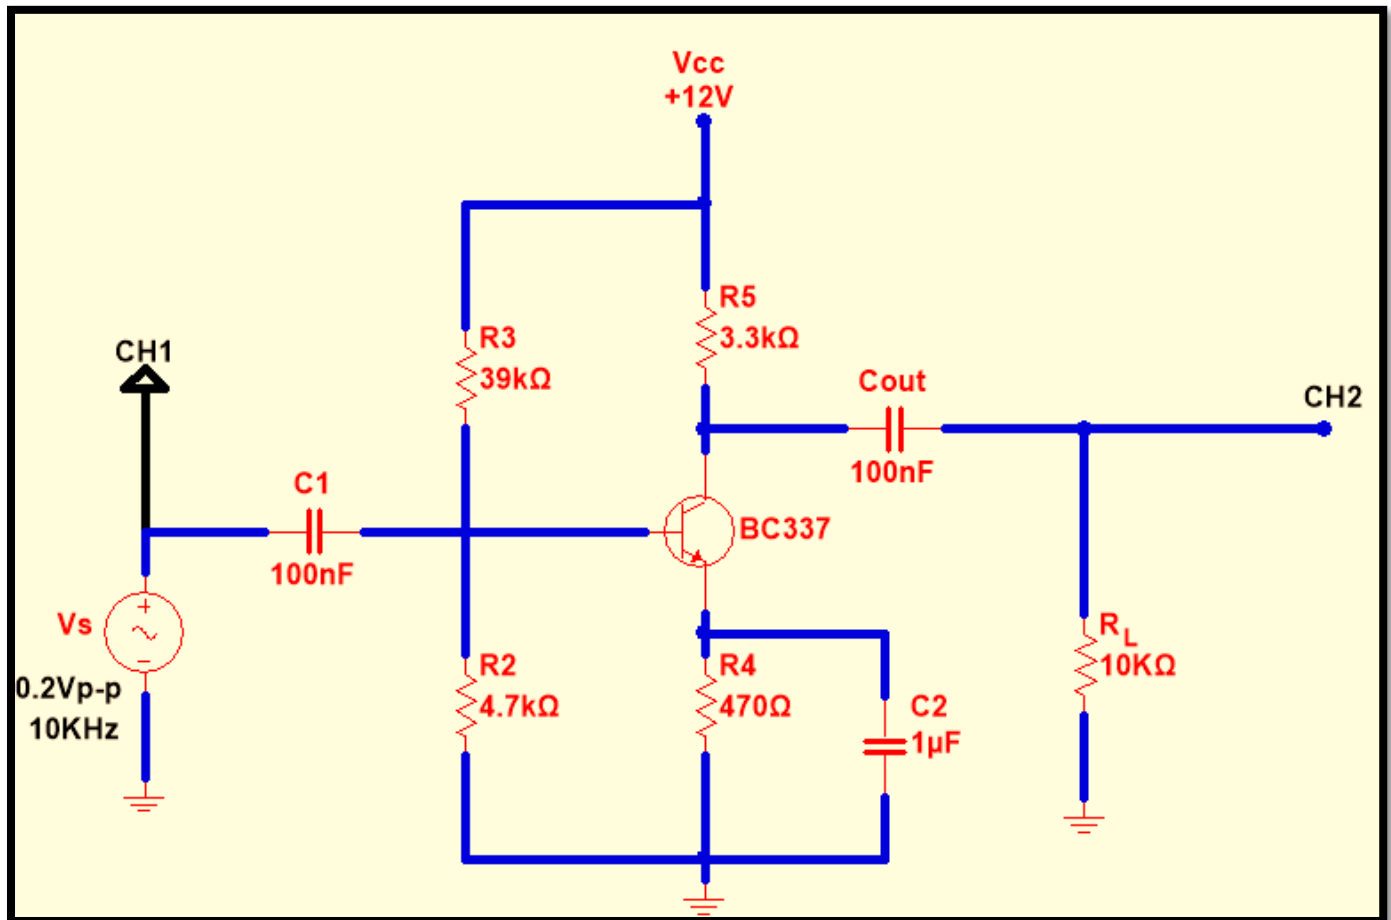

Figure 6: The Practical Common Emitter Amplifier Circuit
2. Connect the amplifier circuit shown in Fig.6, and apply a sinusoidal source signal with peak amplitude of 0.1V and frequency of 10 KHz. Display both the input (source) and output (load) signals on the oscilloscope. Try to measure the voltage gain  $A_v$ , where  $A_v = V_{out}/V_s$ .